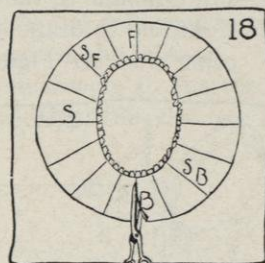

FIG. 18.
- (10) Open out the crinoline and turn up the slashed parts on the headsize line (see Figure 18).
(a) Cut through the line marked *back* (see Figure 18).